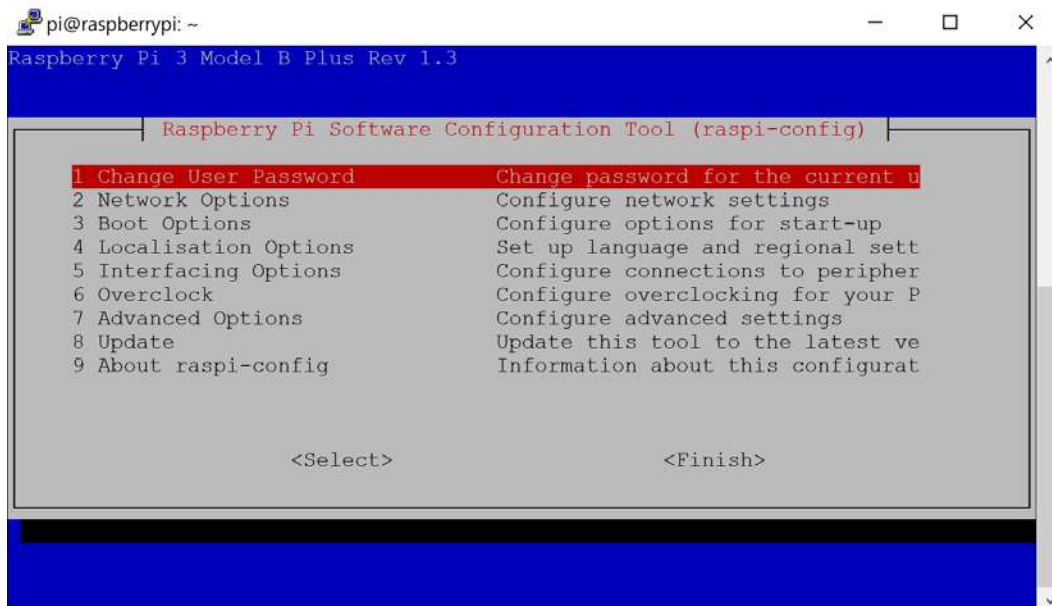

Figure 4.8 – Changing the password
1. In the top menu of `raspi-config`, select **Change User Password** (Figure 4.8):